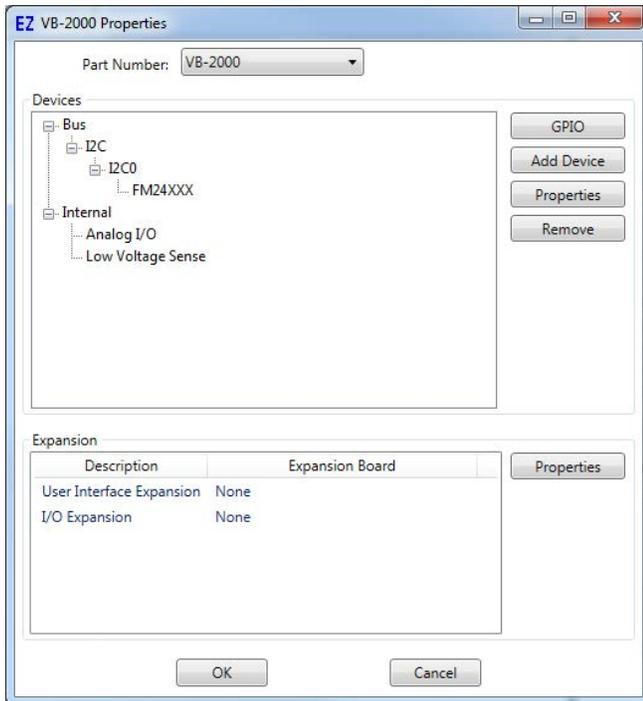

Figure 7-5
5. The PLCHIP\_Pxx\_eeprom Properties window will open. This window is used to configure the number of EEPROM bytes to be blocked for retentive memory use only. See the Retentive Memory / Memory Limitations part of this manual section for details on how and when EEPROM may be used for retentive. Refer to Figure 7-5. Leave the Num Retentive Bytes set to zero unless you are planning to use the EEPROM for retentive memory storage.